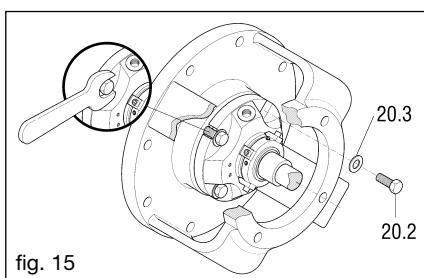

fig. 15
- Unscrew the screws (20.2) which fix the seal flange to the head (fig. 15)
- Remove the head (19)
- Remove the seal (25), the shaft sleeve (31), the seal box (20) and the gasket (20.1)
- Tighten the fixing screws (20.2) carefully (fig. 15) so as to avoid strain on the stationary seat of the seal